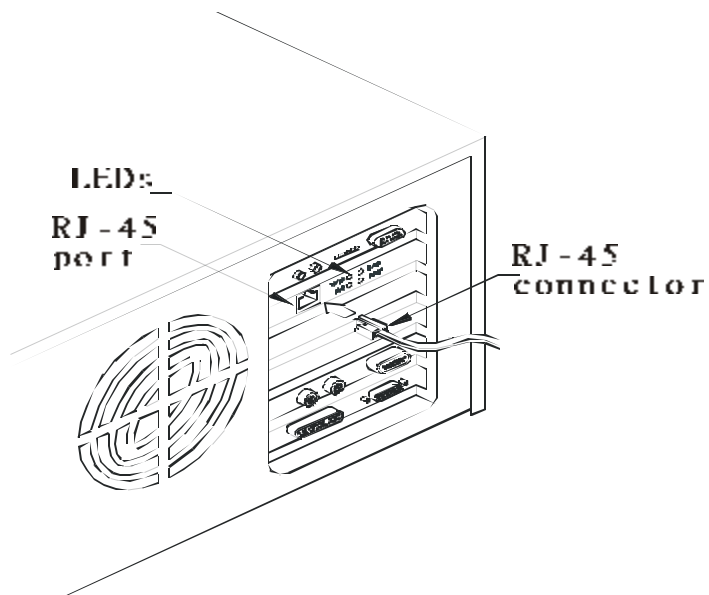

Figure 2-2: Connecting the Network Cable to the RJ-45 Port
1. **Connect the network cable to the RJ-45 port on the LFE-8139ATX NIC, as shown in Figure : 2-2**